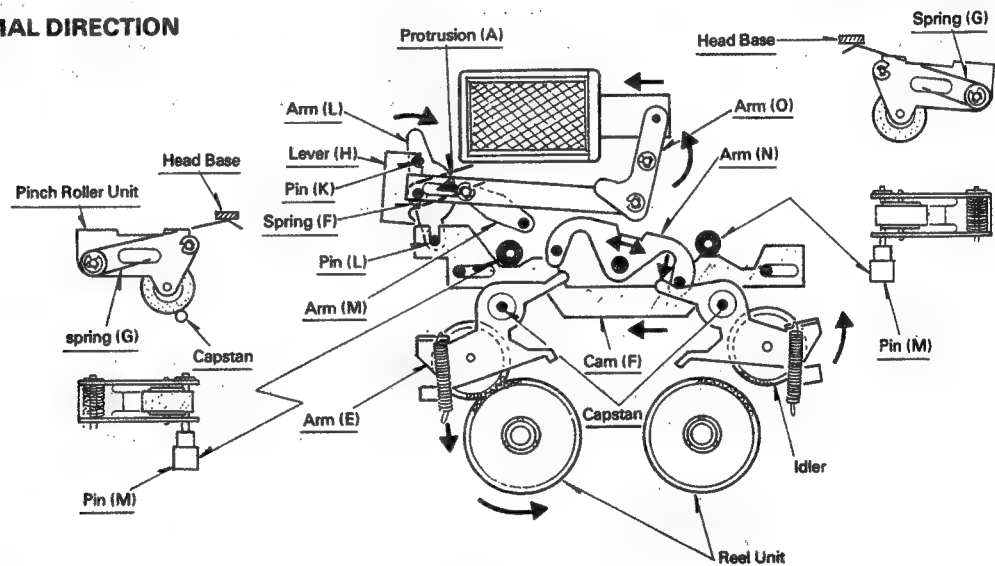

Fig. 16
• Auto Reverse mechanism (Fig. 16 and 17)
1. When the sensing mechanism is activated with the Head Base advanced, the pin at the end of the main solenoid causes Arm (O) to rotate so that Lever (H) is attracted.
2. Lever (H) engages either Pin (K) or (L), attached to Arm (L), to cause Arm (L) to rotate. Pin (L) engages the groove of Cam (F), so that Cam (F) moves right and left to rotate Arm (N) and cause the Arm (E) to move vertically, and stop the rotation on either side of the Reel Units.
3. Cam (F) contacts Pin (M), which is attached to the Pinch Roller Unit. Pin (M), through the pressure of Spring (G), with the claw protruding toward the Head Base as its stopper, is provided with constant downward force.
4. Pin (M), via Cam (F), moves vertically to control the contact of the Capstan on one side with the Pinch Roller.
5. Spring (F), mounted to the rotating shaft of Arm (L) via the protrusion (A) of Arm (L), rotates in the same direction as Arm (L) to store sufficient force to move Arm (M).
6. Said force, when Lever (H) rotates Arm (L) and is returned to its normal position (when the Lever (H) engages neither Pin (L) or (K), affects the oval hole on Lever (H) to incline the Lever (H) toward the opposite side.